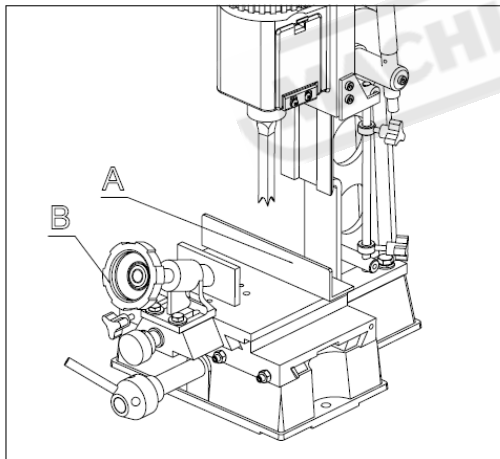

Fig5
The fence (A) Fig. 5, can be moved in or out by loosening lever (B), sliding fence to the desired position and tightening lever (B).